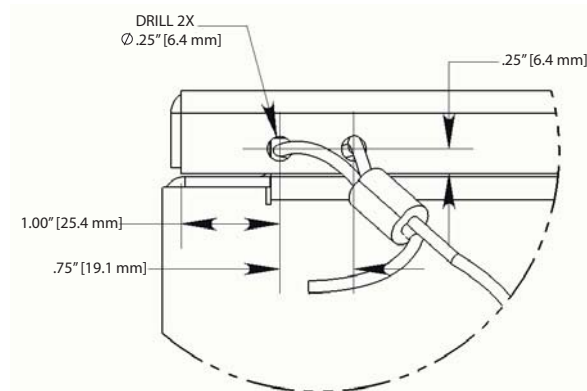

Figure 2: Hole Location on Underside of J-Box Door
1. Locate the drilled hole location on the J-Box door. Drill two ¼" holes into the door as shown below in Figure 2.